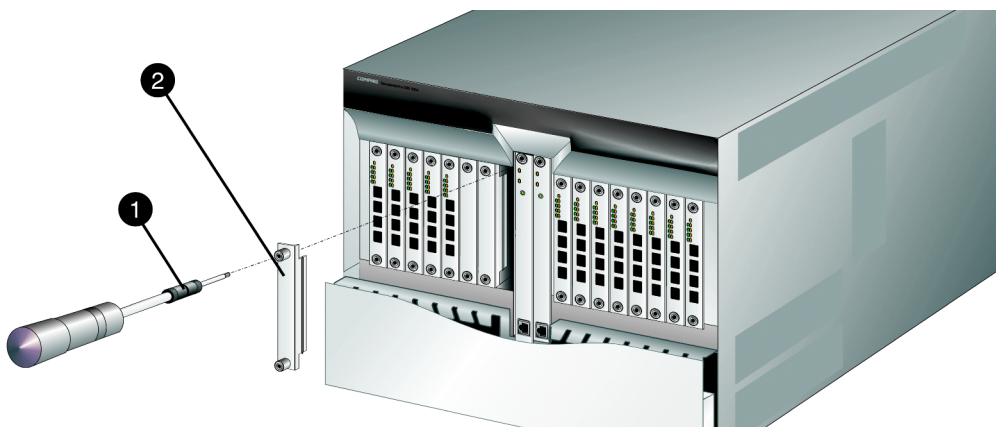

Figure 4-7: FPM Filler Blank Removal and Replacement
4. Insert the torque tool (❶) into each locking Allen screw in the filler blank (❷). Turn each screw counterclockwise until the spring releases and the tool turns freely (Figure 4-7).
2. Hold the filler blank by its stiffener and insert it in the chassis card track (Figure 4-7 on page 4-17).